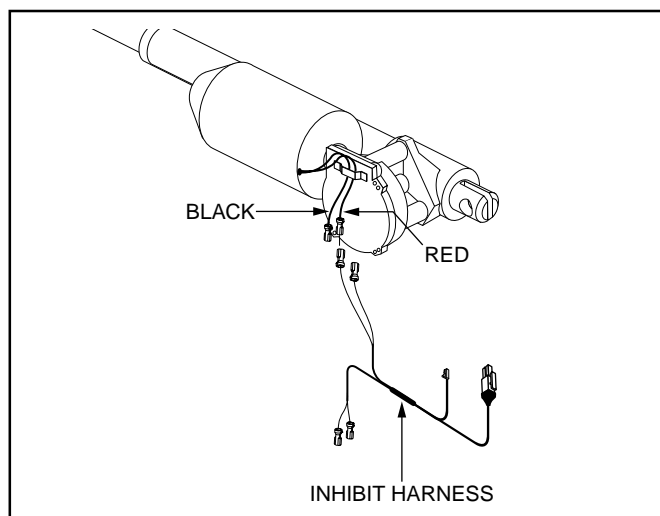

Figure 4.55. Dynamic Actuator with Harnesses
4. Disconnect the plugs on the actuator. Using a multimeter set to measure resistance, take a reading through the actuator motor pigtails. See figure 4.55. Normal resistance is between 3 and 15 ohms. If the actuator reads significantly different from this, replace the actuator.